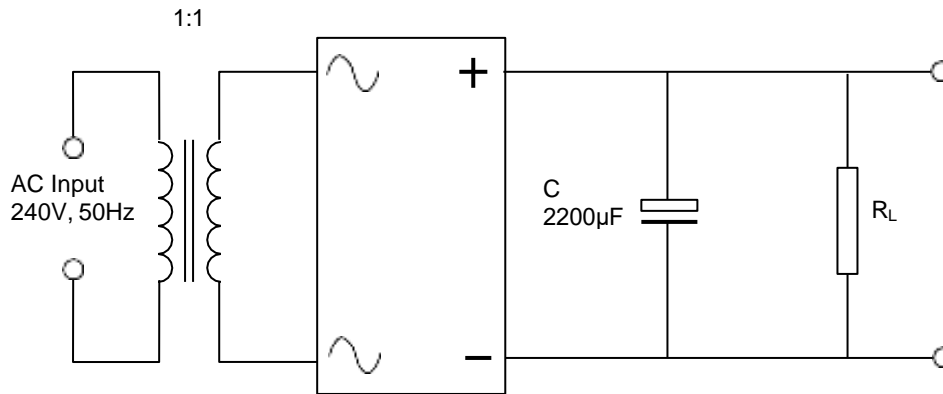

Figure 24.
6. See figure 24 but with both diodes reversed
- (a) The current through R_L in Figure 24 is 450mA. Calculate the peak-to-peak ripple voltage.